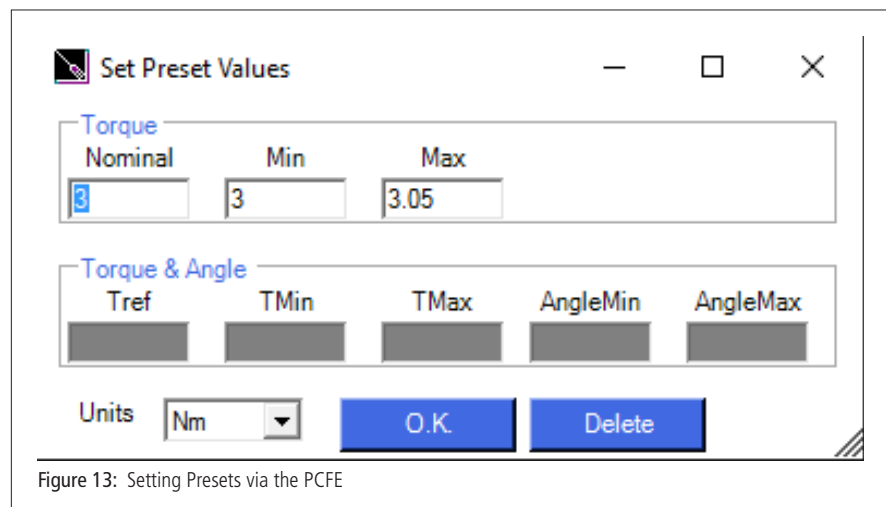

Figure 13: Setting Presets via the PCFE
1. Ensure the torque device is connected to the PCFE software selected using "Select Port" (Figure 13).